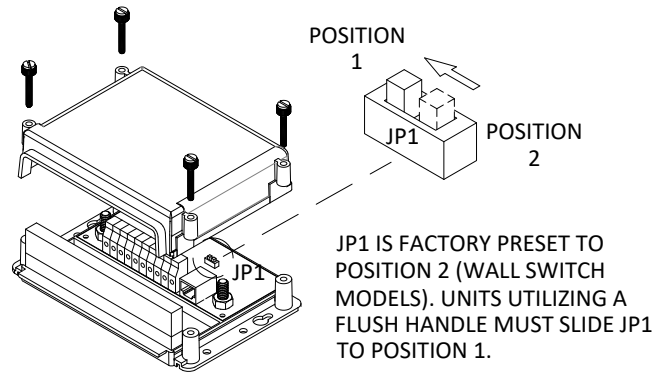

FIG 2
4. Choose one of the wiring diagrams (FIG 2, 3, 4, 5 or 6) to route all wires.